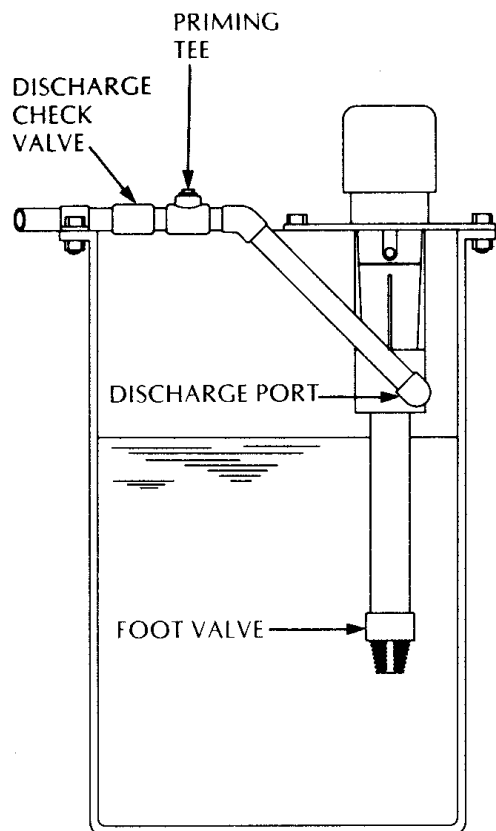

Fig. 2
5. With both foot valve and discharge check installed and operating correctly, pump will not need priming for restart even if liquid level in tank drops below discharge port. (Figure 2)